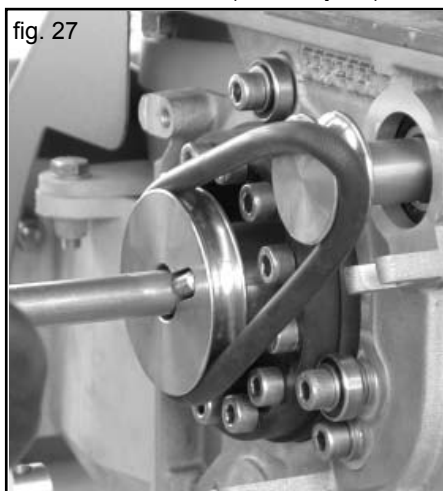

fig. 27
- To disable the agitator, lift the round belt above the edge of the drive pulley and, on the opposite side, rotate the dosing roller in the driving direction. The belt will come off (Fig. 27).